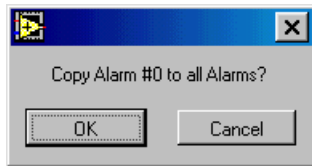

Figure 11-3. Copy Alarm #0 to all Alarms Message Box
- **Copy Alarm #0 to All 13 Alarms** — Click this option to copy the settings specified for Alarm #0 to all the input module alarms. In the message box (Figure 11-3) click **OK** to confirm or **Cancel** to cancel the operation.